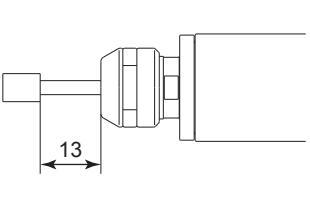

Fig. 20
- Do not exceed 13mm of overhang for mounted grindstones as shown in Fig. 20. If the overhang must exceed 13mm, reduce the motor speed in accordance with Table 4.